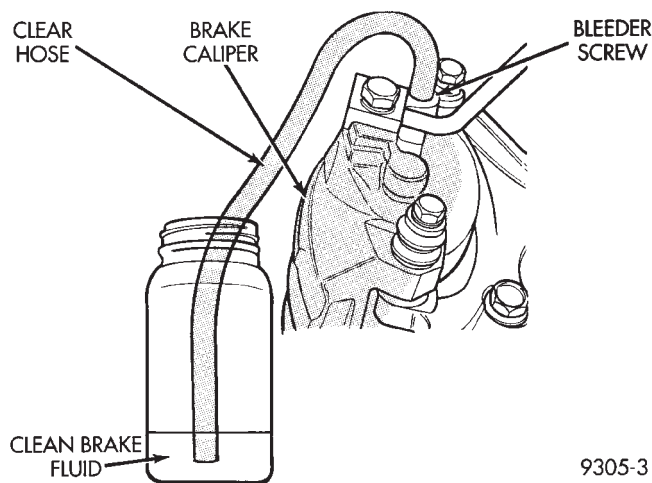

Fig. 4 Proper Method for Purging Air From Brake System (Typical)
(1) Remove rubber dust caps from all 4 bleeder screws.
(2) Attach a clear hose to the bleeder screw at one wheel and feed the hose into a clear jar containing fresh brake fluid (Fig. 4).
(3) Open bleeder screw (Fig. 4) on caliper assembly or wheel cylinder, at least **one full turn** or more to obtain an adequate flow of brake fluid.
(4) After 4 to 8 ounces of brake fluid has been bled through an individual wheel's brake hydraulic system. And an air-free flow (no bubbles) is maintained in the clear plastic hose and jar, this will indicate a good bleed of this individual hydraulic circuit.
(5) Repeat the procedure at all the other remaining bleeder screws. Then check the pedal for travel. If pedal travel is excessive or has not been improved.
(1) Remove rubber duct caps from all 4 bleeder screws.
(3) Pump the brake pedal three or four times and hold it down before the bleeder screw is opened.
(4) Then open the bleeder screw at least 1 full turn. When the bleeder screw opens the brake pedal will drop all the way to the floor.
(5) Release the brake pedal only **after** the bleeder screw is closed.
(6) Repeat steps 1 through 3, four or five times at each bleeder screw. This should pass a sufficient amount of fluid to expel all the trapped air from the brakes hydraulic system. Be sure to monitor brake fluid level in master cylinder fluid reservoir, to ensure it stays at a proper level. This will ensure air does not re-enter brake hydraulic system through master cylinder.
(7) Only after a short stroke and solid brake pedal feel is obtained. Test drive vehicle to ensure brakes are operating correctly and brake pedal is solid.
(8) Replace all 4 bleeder screw dust caps.